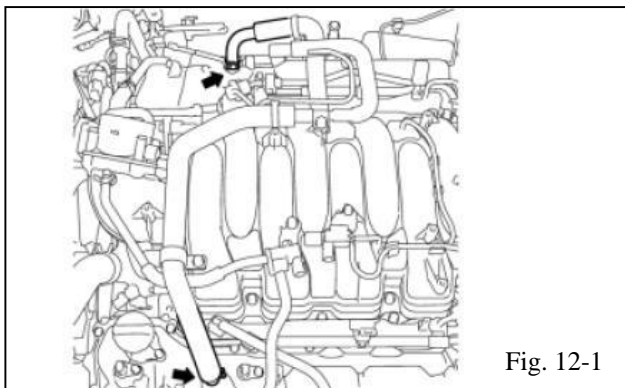

Fig. 12-1
- (b) Disconnect the ventilation hose from the ventilation pipe on the cylinder head covers, LH and RH (Fig. 12-1).